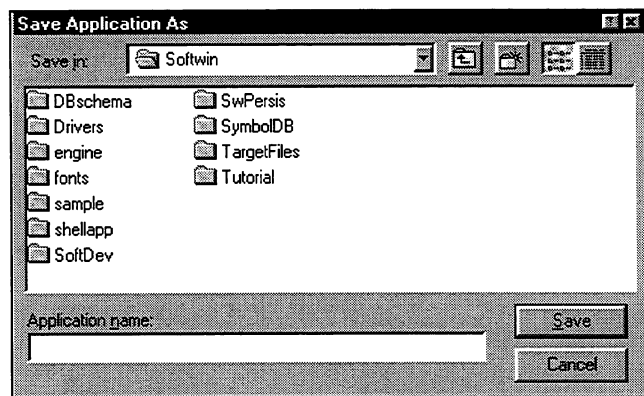

Figure 5-3. Save Application As Dialog Box
2. Select the Save As command on the File menu. The Save Application As dialog box opens, as shown in Figure 5-3.